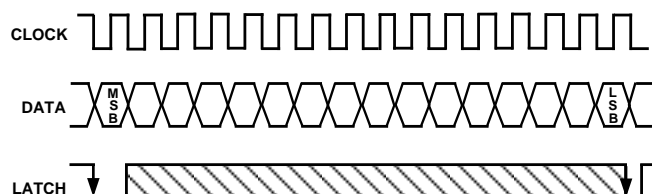
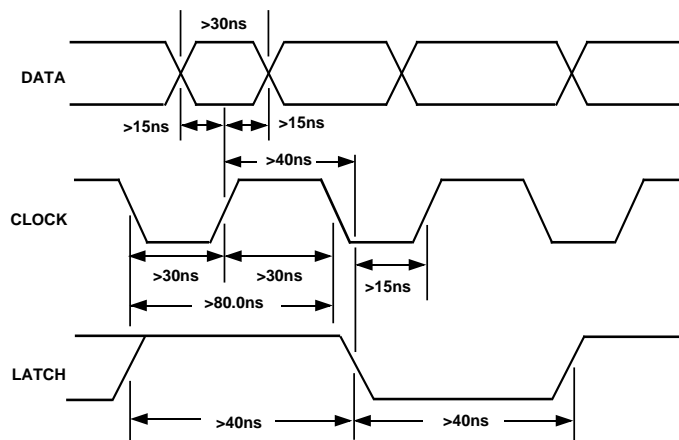

Figure 5. Signal Requirements for AD1851
Figure 6. Timing Relationships of AD1851 Input Signals
Data is transmitted to the AD1851 in a bit stream composed of 16-bit words with a serial, MSB first format. Three signals must be present to achieve proper operation. They are the Data, Clock and Latch Enable (LE) signals. Input data bits are clocked into the input register on the rising edge of the Clock signal. The LSB is clocked in on the 16th clock pulse. When all data bits are loaded, a low-going Latch Enable pulse updates the DAC input. Figure 5 illustrates the general signal requirements for data transfer to the AD1851.
Figure 6 illustrates the specific timing requirements that must be met in order for the data transfer to be accomplished properly. The input pins of the AD1851 are both TTL and 5 V CMOS compatible. The input requirements illustrated in Figures 5 and 6 are compatible with data outputs provided by popular DSP filter chips used in digital audio playback systems. The AD1851 input clock can run at a 12.5 MHz rate. This clock rate will allow data transfer rates for 2 \times , 4 \times or 8 \times or 16 \times oversampling reconstructions.